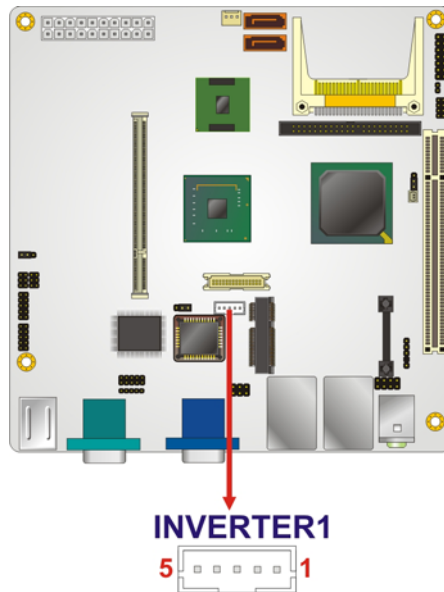

Figure 4-11: LCD Backlight Connector Pinout Locations
- CN Location:** See Figure 4-11